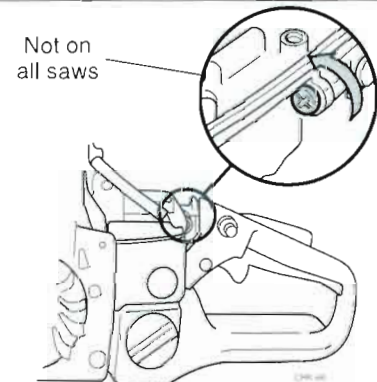

Figure 8.8 Crankcase Rear Screw Location
STEP 7. Remove the phillips head screw at the rear of the crankcase (Models 300, 300S, 360, 377, 488 only). See Figure 8.8 and the Table below.